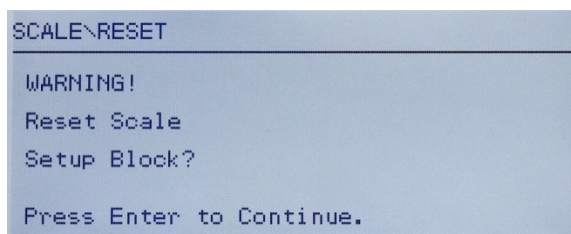

Figure 3-31: Terminal Reset Warning Screen
- Use the DOWN navigation key to select Reset, then press ENTER. The screen shows a warning message about resetting the Scale setup (Figure 3-31).